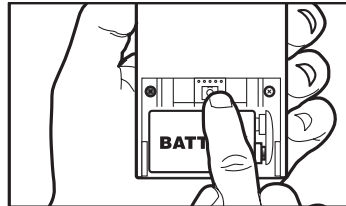

Fig. 1 – Reset button
1. Press the white reset button above the battery (Fig. 1). The light on the face of the transmitter will glow solid YELLOW.